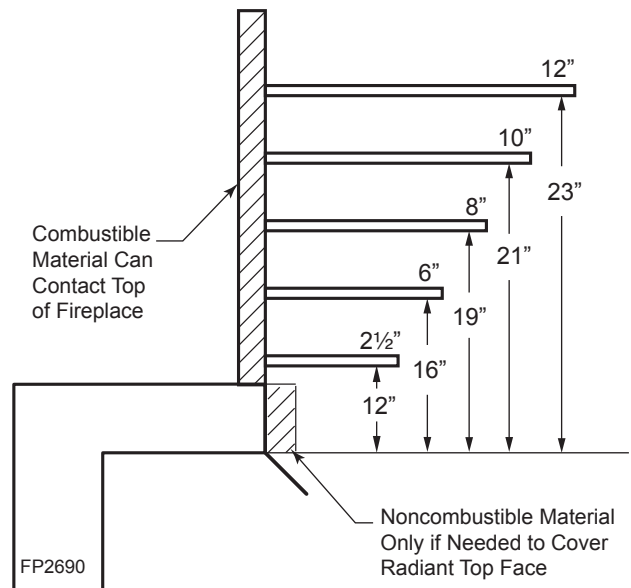
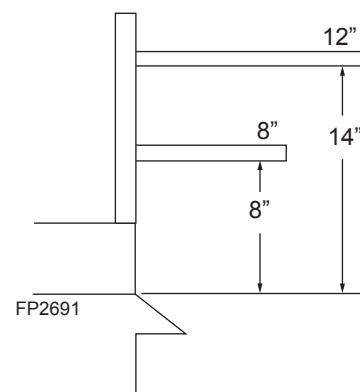

Figure 5 -
Figure 6 -
4. **Mantel clearances:** The canopy supplied with the unit must be installed. If a combustible mantel is installed, it must meet the clearance requirements as shown in *Figure 5*. However, if lower mantel height is desired, refer to Page 14, *Figure 6*.